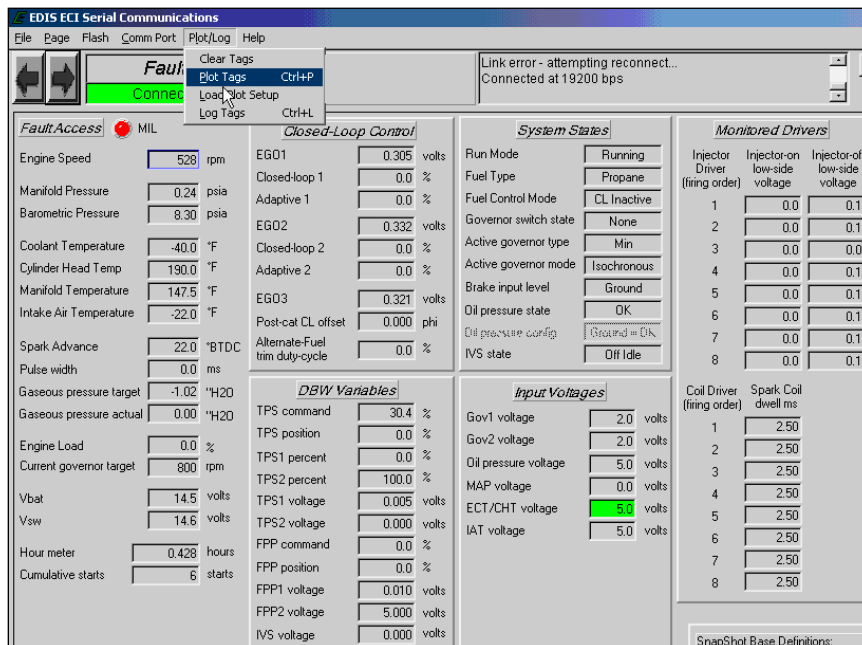
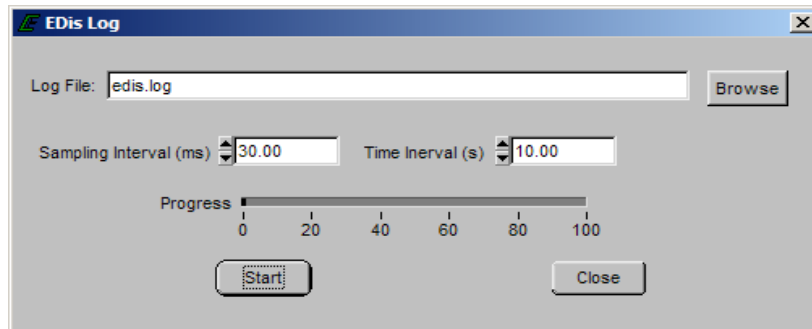

Figure 6
Figure 9: DST Log Interface
Once the variables have been tagged as highlighted by the green color fill, select the “Plot/Log” function in the top menu bar as shown below in figure 6.
Another data capture function incorporated in the software is the DST logger. This tool serves as a PC data logger for any variable available in the ECM through the interface software. Figure 9 shows the interface display for configuring the DST Log. The interface allows the user to create the filename, set the sample rate for acquisition, set the time interval for sampling, and display the progress of acquisition. A maximum of twenty (20) variables may be tagged for the log. The amount of data stored is only limited by available PC RAM. The resulting text file may then be viewed by any standard Windows text editor/reader program. To create a log file select the “Log Tags” in the drop down menu as shown in figure 6.